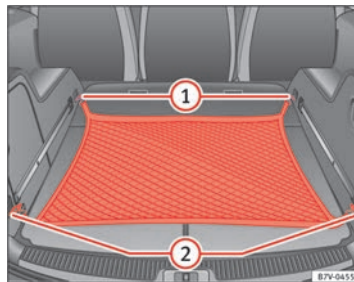

Fig. 100 In the luggage compartment: net used on secured baggage
- Hook the baggage net into the fastening rings → Fig. 100 ① and ②.